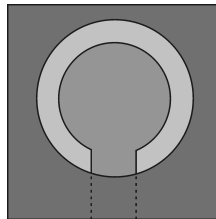

Figure 2. Non-Solder-Mask-Defined Pad Layout on PCB
1. Non-solder mask defined or pad defined is the preferred pad layout. However lower pitches may not utilize this layout due to PCB limitations. Refer to Figure 2.